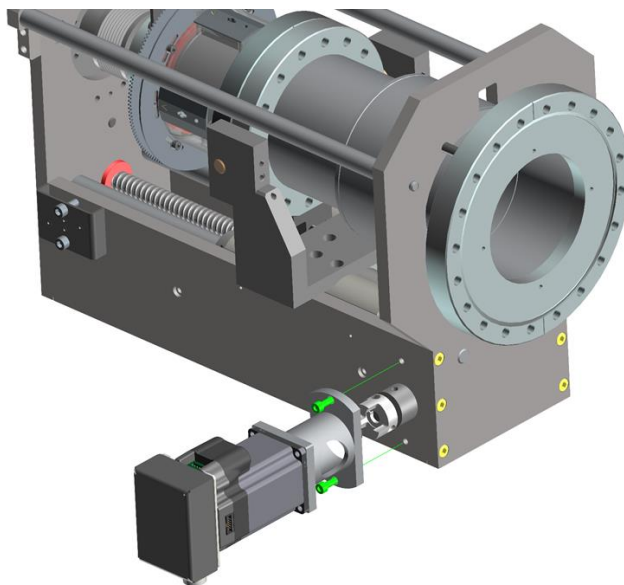
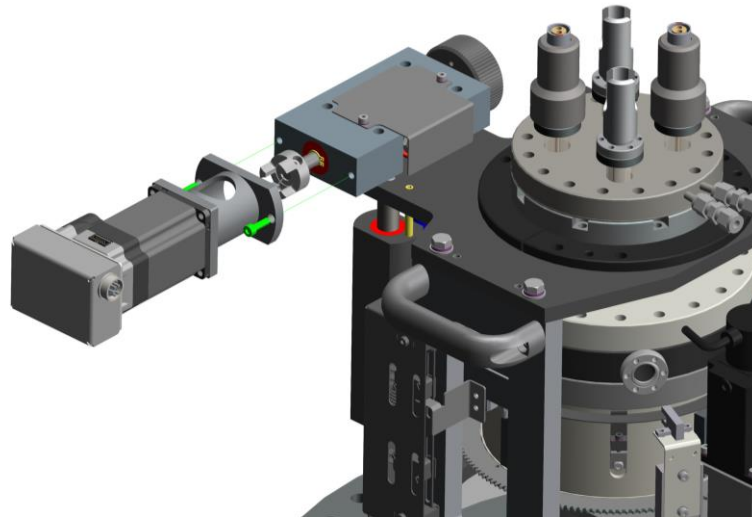
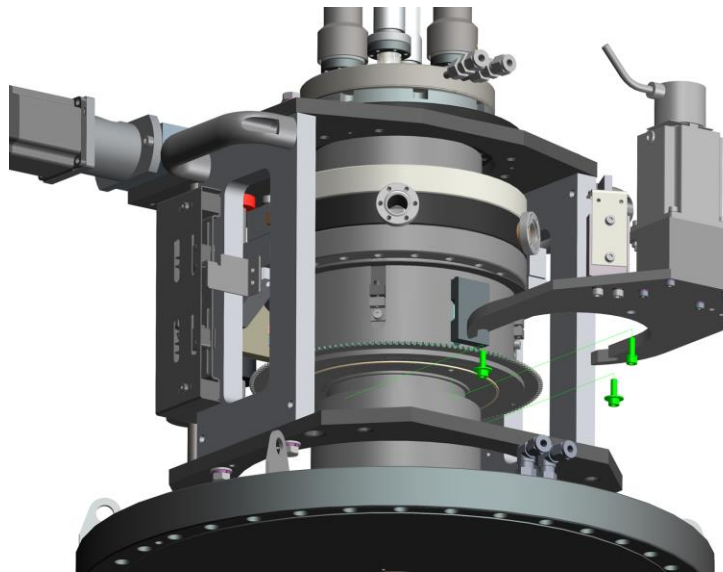

Fig. 7-1 Schematic showing the removal of Z-motion stepper motor from the manipulator (manual transfer system).
Fig. 7-2 Schematic showing the removal of Z-motion (Fork) stepper motor from the manipulator (automated transfer system).
Fig. 7-3 Schematic showing how to remove the rotatory stepper motor (automated transfer system).
- Rotatory and z-motion stepper motor(s) (see Fig. 7-1, Fig. 7-2, Fig. 7-3), **ensure the red plastic coupling is also removed as this is not bakeable.**